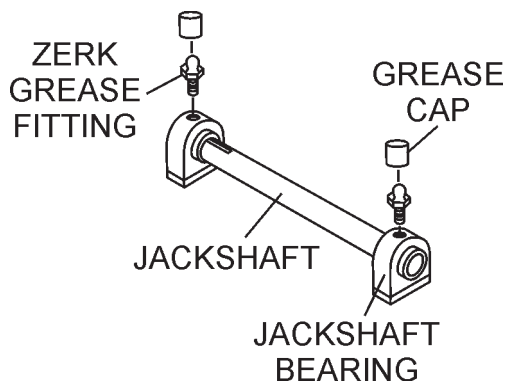

Figure 30. Zerk Fittings (Lubrication)
There are two (2) grease points (Figure 30) for the MP1 **gasoline** model saw. Use only Premium Lithium 12 based Grease, conforming to NLG1 Grade #2 consistency. Grease **daily**.